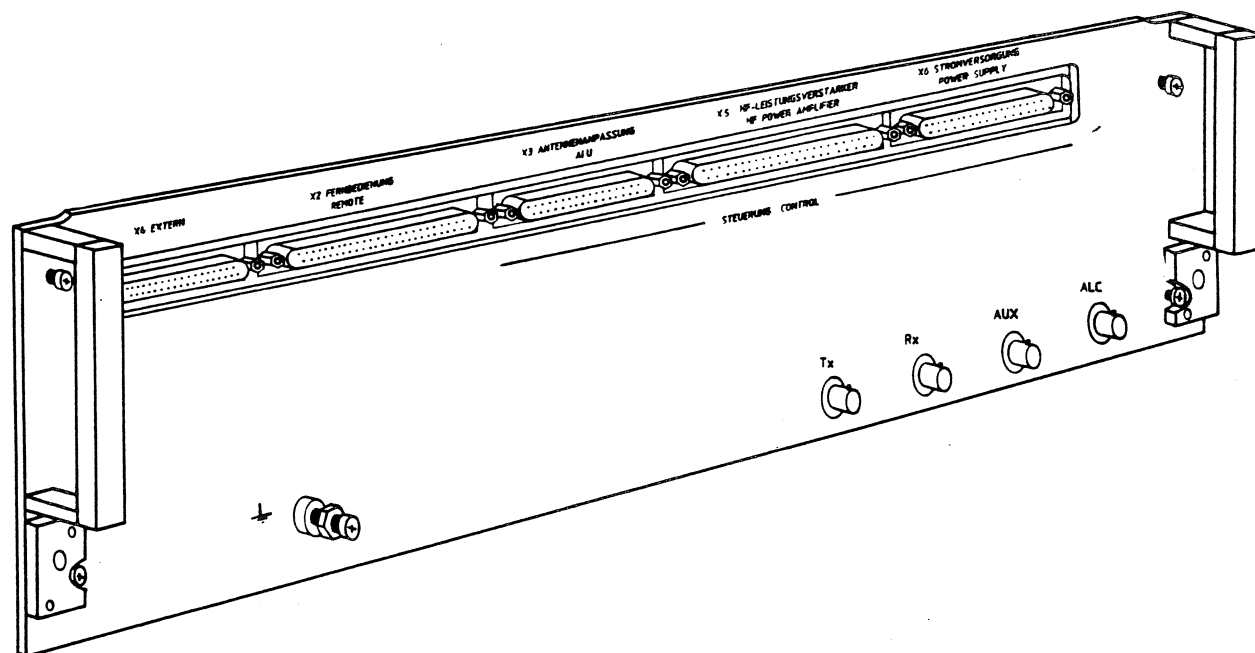

Fig. 2.2 Arrangement of Interfaces on Receiver/Exciter GX 859C1
In the case of Receiver/Exciter GX 859C1 all interfaces, with the exception of the sockets for connecting the two headsets, are located on the rear. Fig. 2.2 below illustrates how they are arranged.
3. Connect the trailing cables inside the rack to the receiver/exciter with reference to Fig. 2.2 and Fig. 2.12.